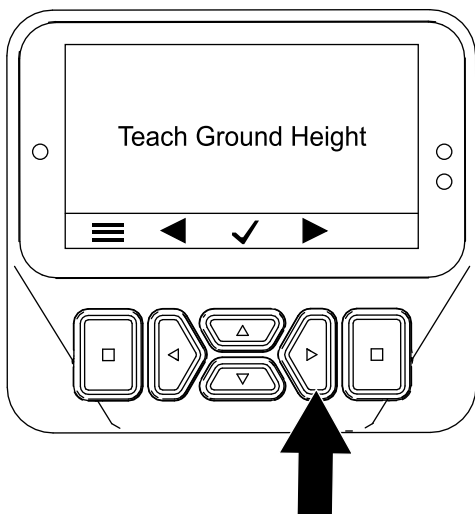

Figure 46
3. Press the right button twice to display the Calibrating the Tine Ground Height screen (Figure 46).